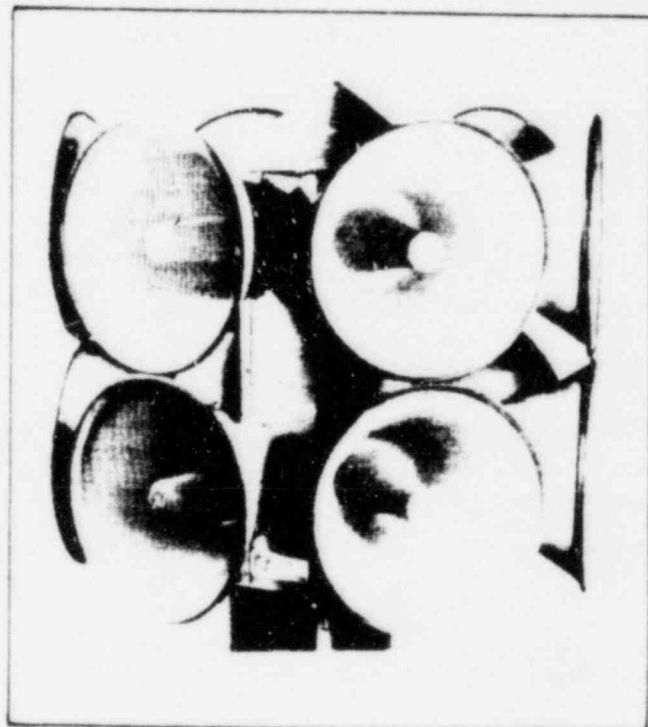

Figure 1-3. Model EOWS*1212 Speaker Array.
2. Model EOWS*1212 (figure 1-3). This speaker array is a cluster of twelve exponentially flared re-entrant, spun aluminum speaker projectors which are non-rotating, omni-directional. Two tiers of six speakers produce a uniform sound distribution to within $\pm 5\text{dB}$ for a complete 360 degree radial perimeter. This speaker array is designed for "long throw" wide area coverage.